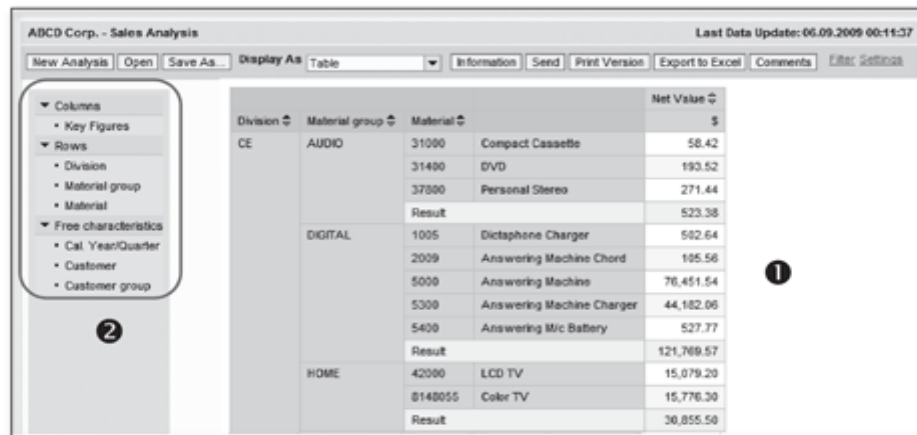

Figure 10.43 BEx Web Analyzer Layout
Data from the InfoProvider is displayed in the tabular format on the right side of the screen (❶ of Figure 10.43). All query elements, such as characteristics in rows/columns and key figure structures, are visible in a navigation pane on the left side (❷).